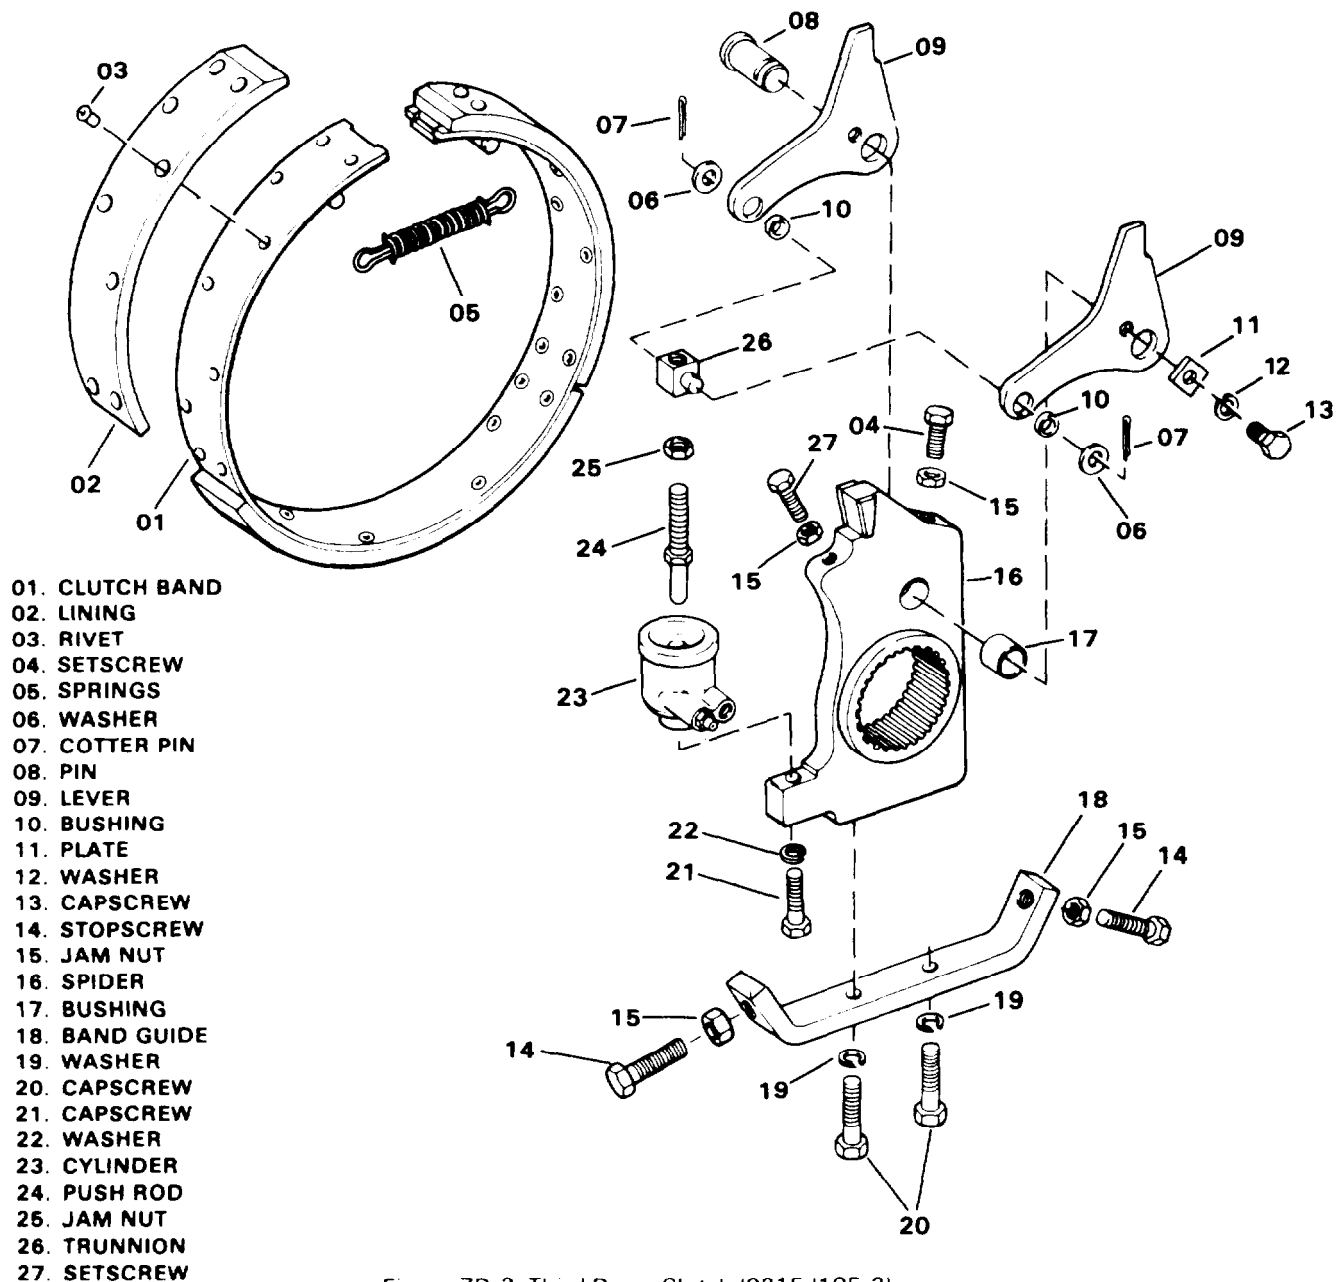

Figure 7D-2. Third Drum Clutch (9215J105-2)
- 3. Loosen jam nuts (15) and turn stopscrews (14) until there is adequate clearance around clutch band (01).
- 4. Disconnect the line that runs from cylinder (23) to the shaft and remove the clutch assembly from the machine.
- 5. Remove springs (05) from band (01). The band can now be removed for relining.
**INSPECTION AND REPAIR.** Prior to reinstalling the clutch, inspect and repair the following items (see Figure 7D-2):
- 1. Replace return springs (05)
- 2. Remove bushing (17) from spider (16) and replace it.
- 3. If cylinder (23) leaks or has been performing erratically, remove and overhaul or replace it. See Subsection 5D.